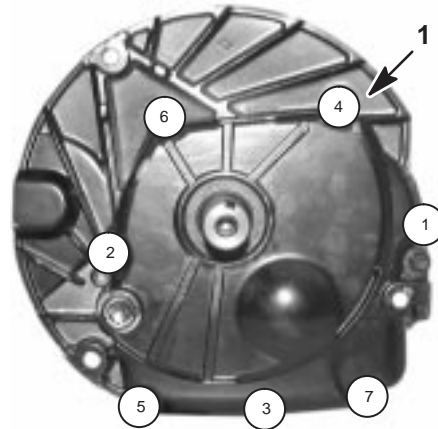

Fig. 136 – Torque Sequence
2. Install screws and torque in sequence shown, Fig. 136.
Note: Screw assembled at position four, Fig. 136, was factory coated with sealant. If sealant is missing, coat with a non-hardening sealant such as Permatex® 2, or equivalent.